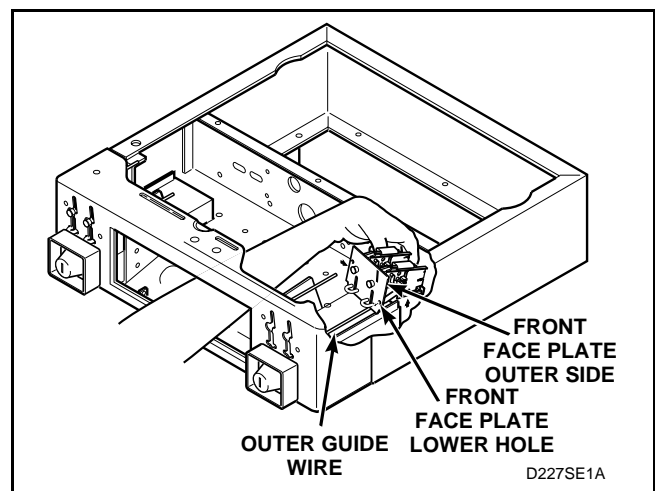

Figure 26
- (2.) Carefully pull coin drop slightly up and forward. Turn the outer side of coin drop's front face plate slightly to feel the outer guide wire line up and enter the front face plate's lower hole. Gently tug coin drop sideways to feel if the outer guide wire has gone through the hole. See *Figure 26*.